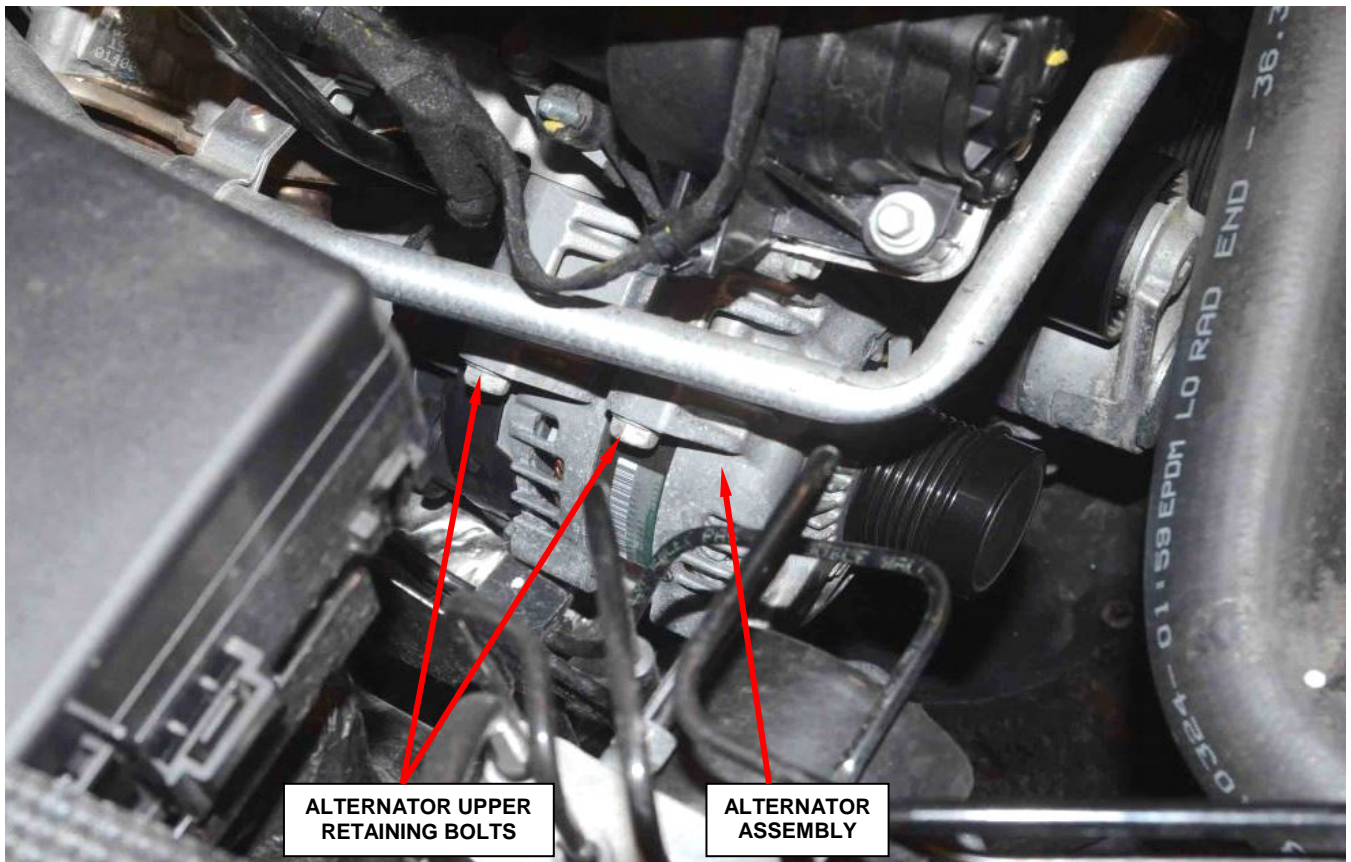

Figure 9 – Alternator Upper Retaining Bolt
3. Remove and save the alternator upper retaining bolts (Figure 9).